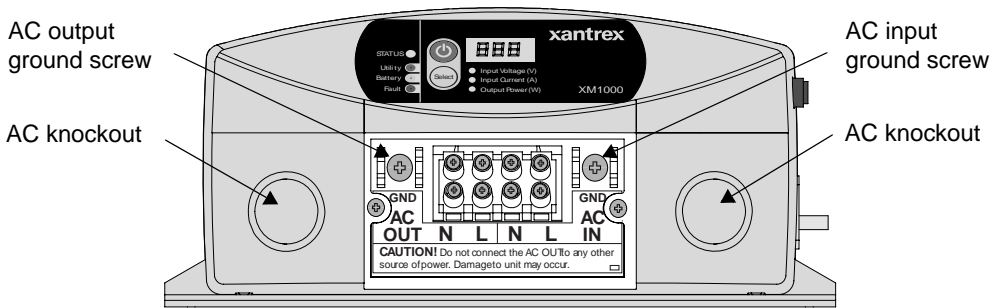

Figure 3-5 XM Series Inverter AC Wiring Compartment
5. Remove the right-hand side AC wiring knockout from the front of the unit (see Figure 3-5).
A separate screw is provided to connect the AC input ground (see Figure 3-5).